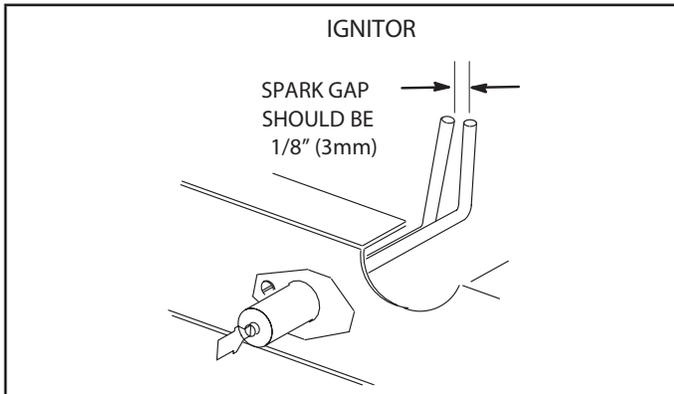

FIGURE 45
- 4 - Locate the ignitor under the left burners. Check ignitor spark gap with appropriately sized twist drills or feeler gauges. See FIGURE 45.
- 5 - Check the alignment of the ignitor and the sensor as shown in FIGURE 45 and TABLE 28.